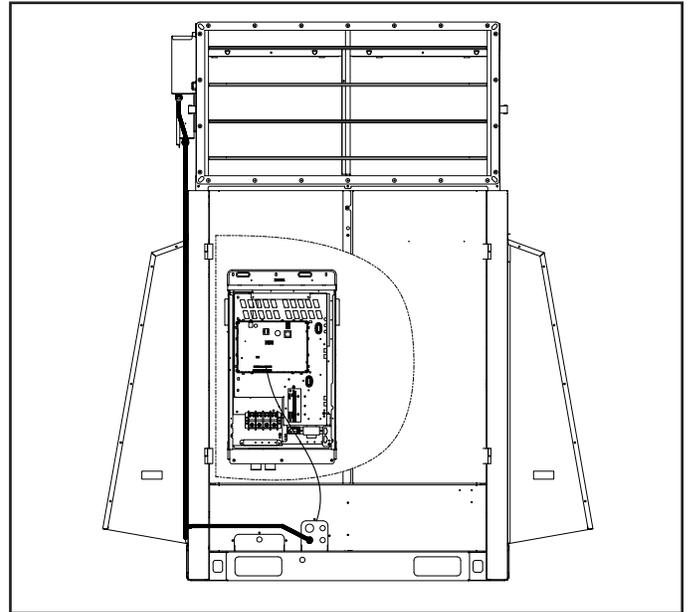

Figure 14. Outdoor Unit Control Board Location
- The flexible conduit can be routed along the front corner panel of the unit as shown in Figure 14.
- Locate outdoor unit control board. Figure 14.